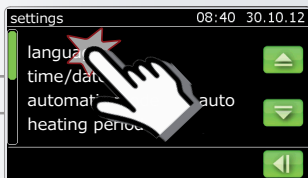

Fig. 16
1. Select **settings** --> **language** in the main menu (Fig. 16).